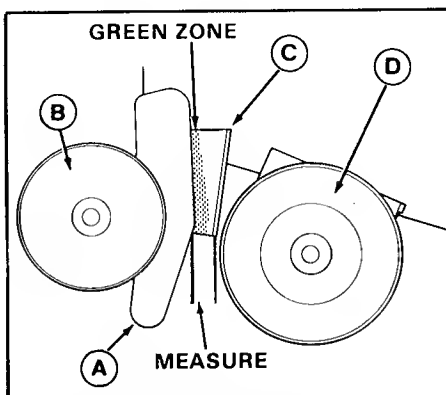

Figure 38. Belt Adjustment
new the rear edge of the idler bracket (A, figure 38) should be aligned with the front edge of the green zone shown in figure 38. The distance between idler bracket (A) and stop (C) will be approximately 1-3/16 inch (30 mm).
If the belt has been used before, the rear edge of the idler bracket (A, figure 38) should be in the middle of the green zone shown in figure 38. The distance between idler bracket (A) and stop (C)
13. Push the belt tensioning lever down to release belt tension. Loosen the nut that secures the rear idler pulley (D, figure 38) in the slot. To move the idler bracket (A) forward, move rear idler pulley (D) toward rear. To move the idler bracket (A) toward rear, move the idler pulley (D) forward. Tighten the nut to secure pulley. Pull the belt tensioning lever up and recheck position of idler bracket (A). Readjust if necessary.
14. Operate the tractor with mower engaged for 15 to 30 minutes with a new belt or about two minutes with a used belt. Then stop the engine, remove the key, shift into neutral, set the parking brake and disengage the PTO. Check position of idler bracket (A, figure 38). If the rear edge of idler bracket is in middle of green zone, the belt adjustment is acceptable. If not, readjust the belt as described in step 13.